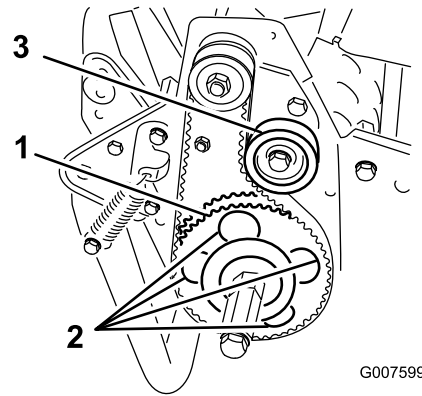

Figure 51
7. Rotate the driven pulley until the holes align with the 4 roller bearing flange screws (Figure 51).
11. Adjust the belt tension and tighten the idler pulley mounting screw (Figure 51).